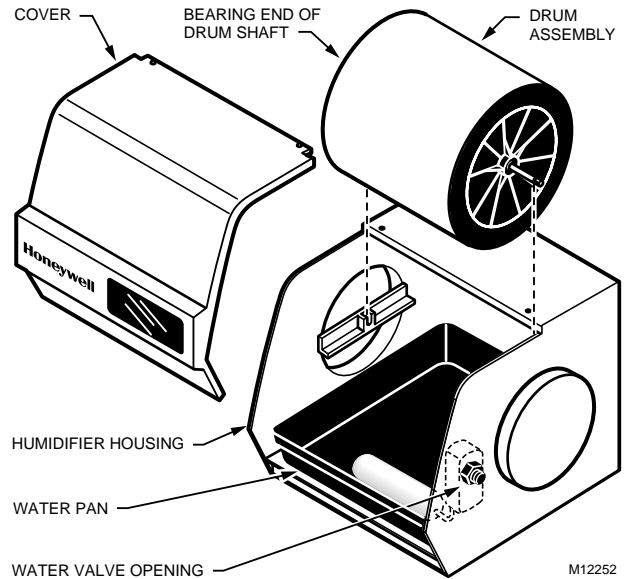

Fig. 3. Humidifier components.
4. Position the humidifier housing (See Fig. 3.) over the hole (be sure it is level) and mark the five mounting holes.